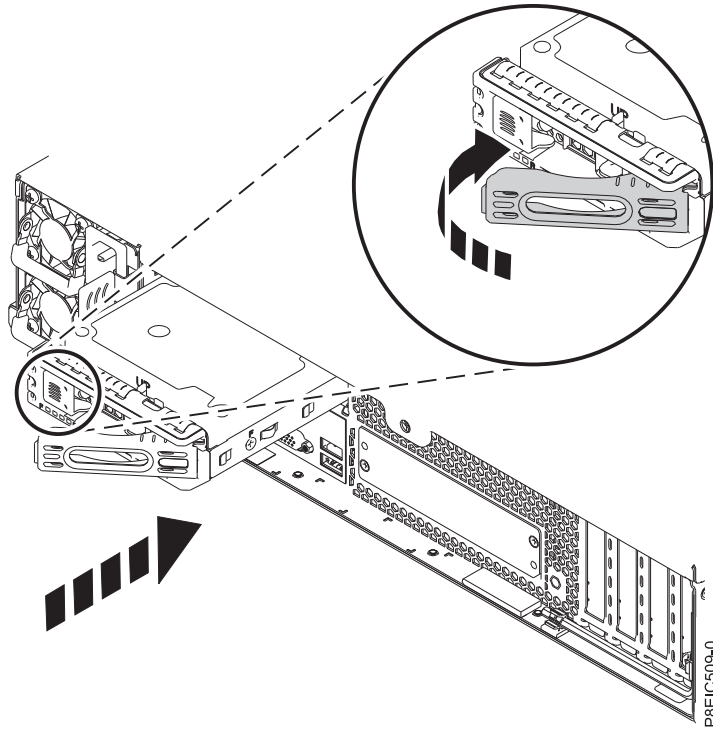

Figure 16. Locking the rear drive tray handle
4. Hold the drive tray by the bottom as you position the drive. Slide the drive tray all the way into the system. Push the drive tray in until the handle starts to close, then push the handle in until it locks, as shown in Figure 16 on page 16.